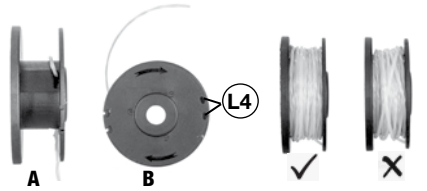

FIG 12
LINE REPLACEMENT (FIG 12)
5. Insert one end of the new line into the hole in the center column of the spool (refer to FIG 12-A), then wind the line around the spool in the direction as shown on the spool. See FIG 12-B.